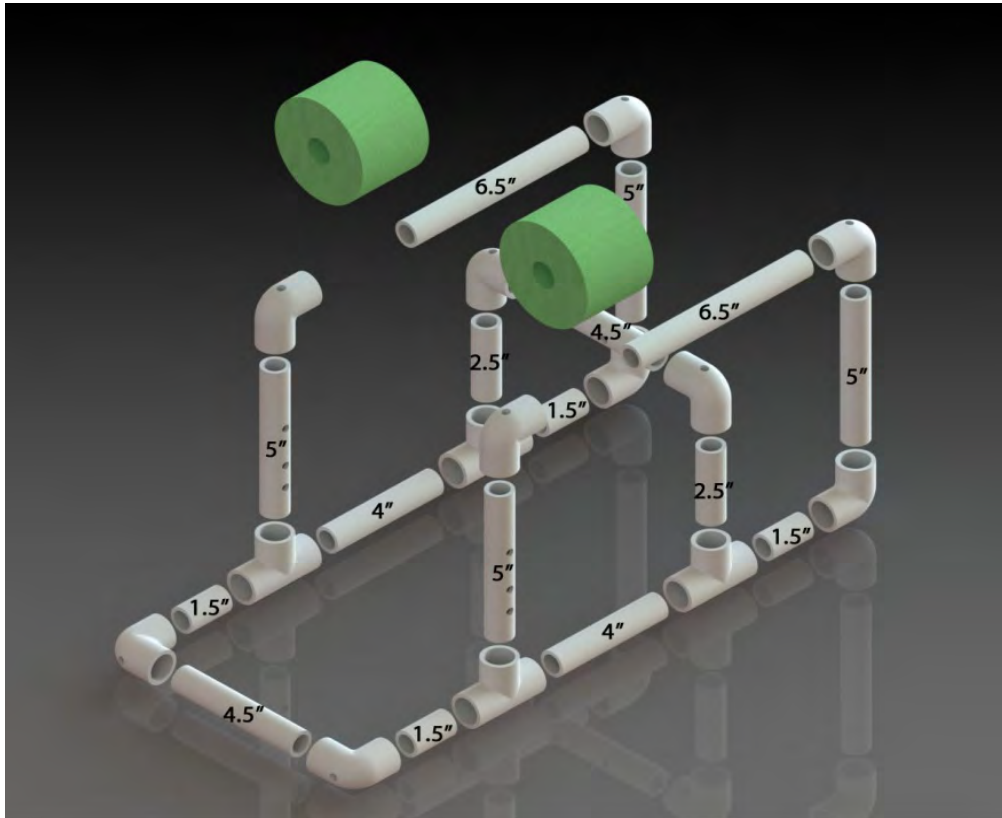

Figure 1.3-1: Initial Frame Assembly
1. Assemble the frame using the PVC parts as shown in Figure 1.3-1. *No glue is used for any of the connections.* Orient the elbows that are near the top of the vehicle with their holes pointing upward, to let air escape when the SEAPERCH is placed in the water. Orient those at the bottom with their holes pointing downward or to the side, to let the water flood in and out easily.